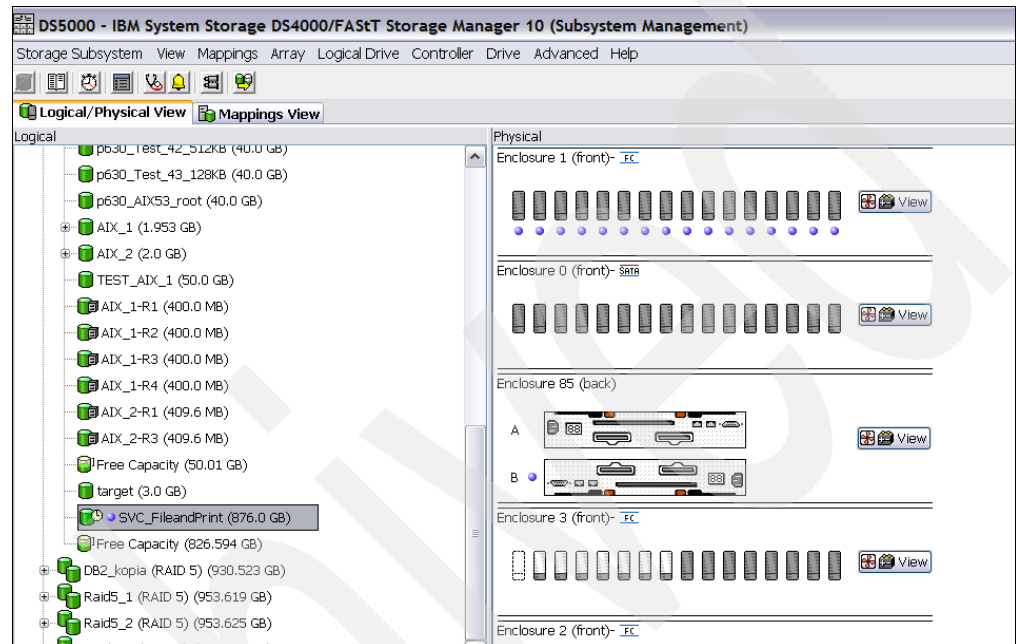

Figure 11-22 File and Print LUN
- The third LUN is the file and print LUN (Figure 11-22).